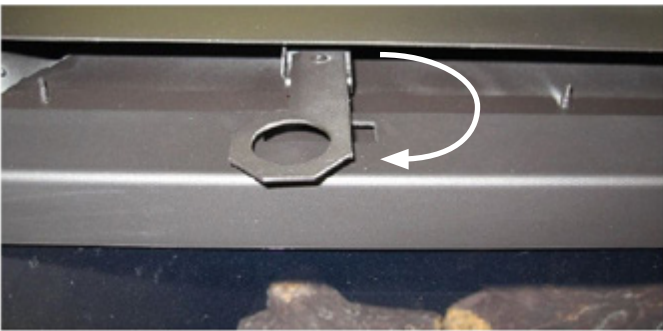

Figure 15.0.01:
1. Just above the door frame reach in and pull the two finger rings forward (See **Figure 15.0.01**).